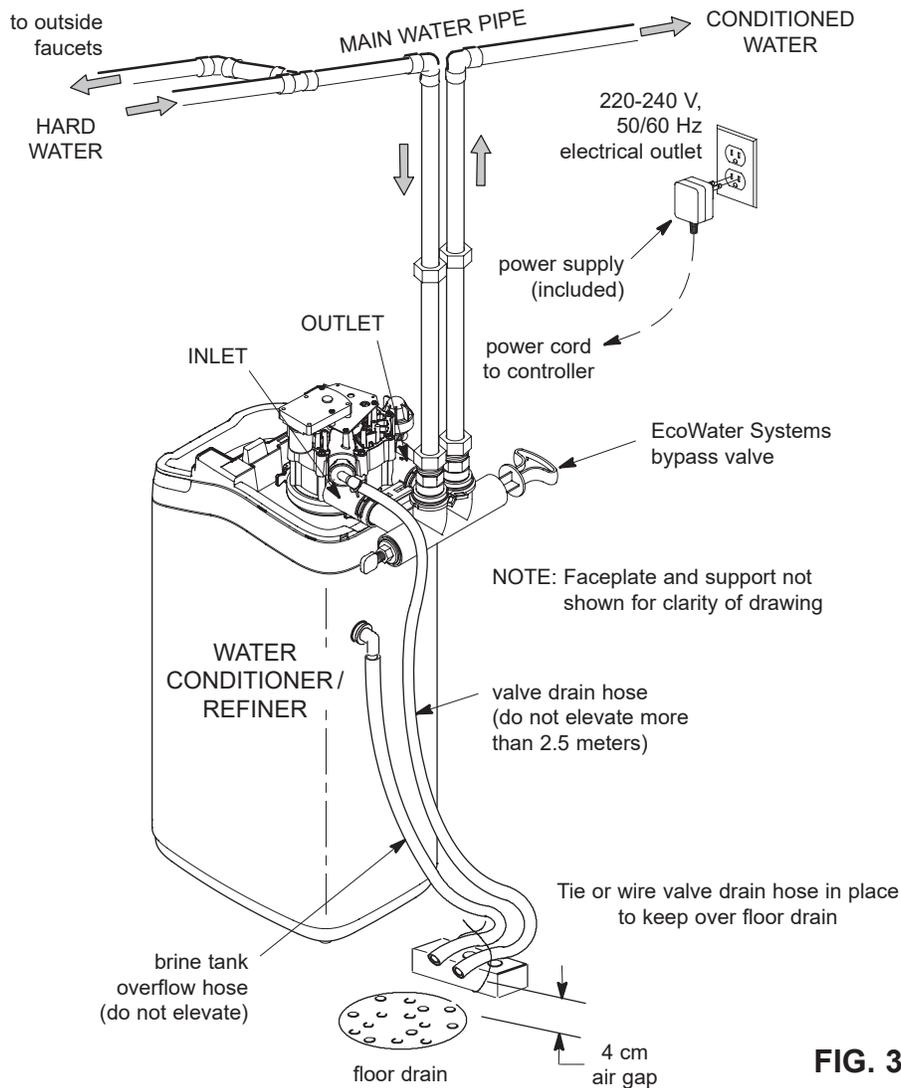

FIG. 3
- c.** Run the hose to the floor drain, and as typically shown in Figure 3, tie or wire the end to a brick or other heavy object. This will prevent "whipping" during recharges. Be sure to provide a 4 cm minimum air gap, to prevent possible sewer water backup.